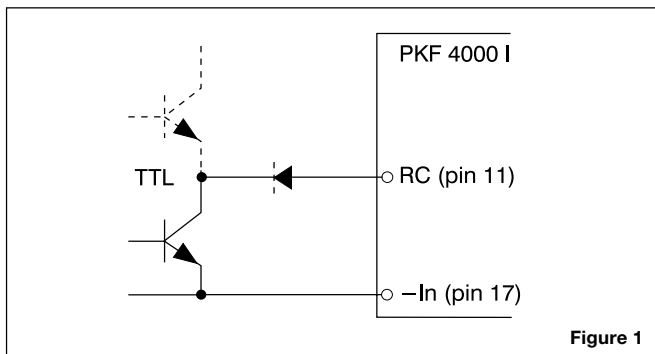

Figure 1
Turn-on or turn-off can be realized by using the RC-pin. Normal operation is achieved if pin 11 is open (NC). If pin 11 is connected to pin 17 the power module turns off. To ensure safe turn-off the voltage difference between pin 11 and 17 shall be less than 1.0 V. RC is TTL open collector compatible output with a sink capacity > 100 μA (see fig. 1).